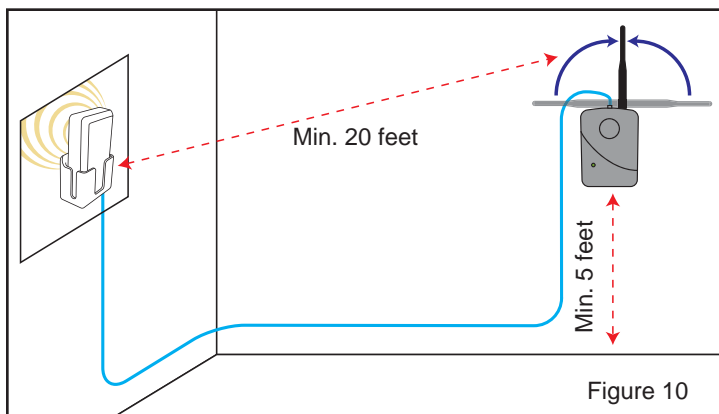

Figure 10
6. Slide the amplifier onto the bracket. Position the antenna vertically for best performance (see Figure 10). Operating the amplifier with the on-board antenna in a position other than vertical will reduce its performance.